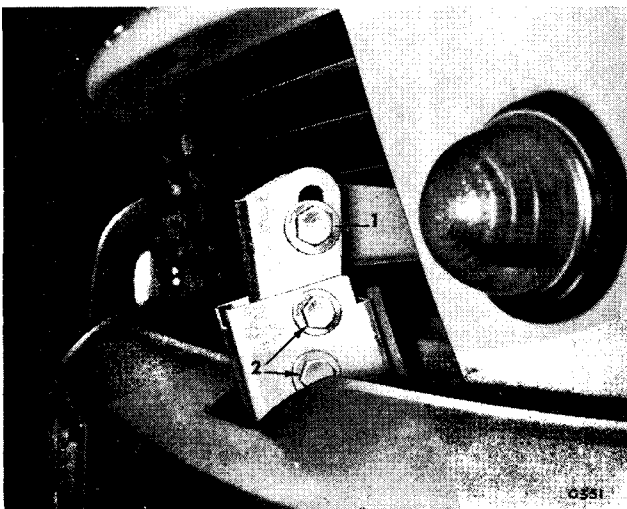

Fig. 11. Bonnet adjustment
Close the bonnet and remove two bolts (1) (Fig. 11).
Height Adjustment. Front (Fig. 11)